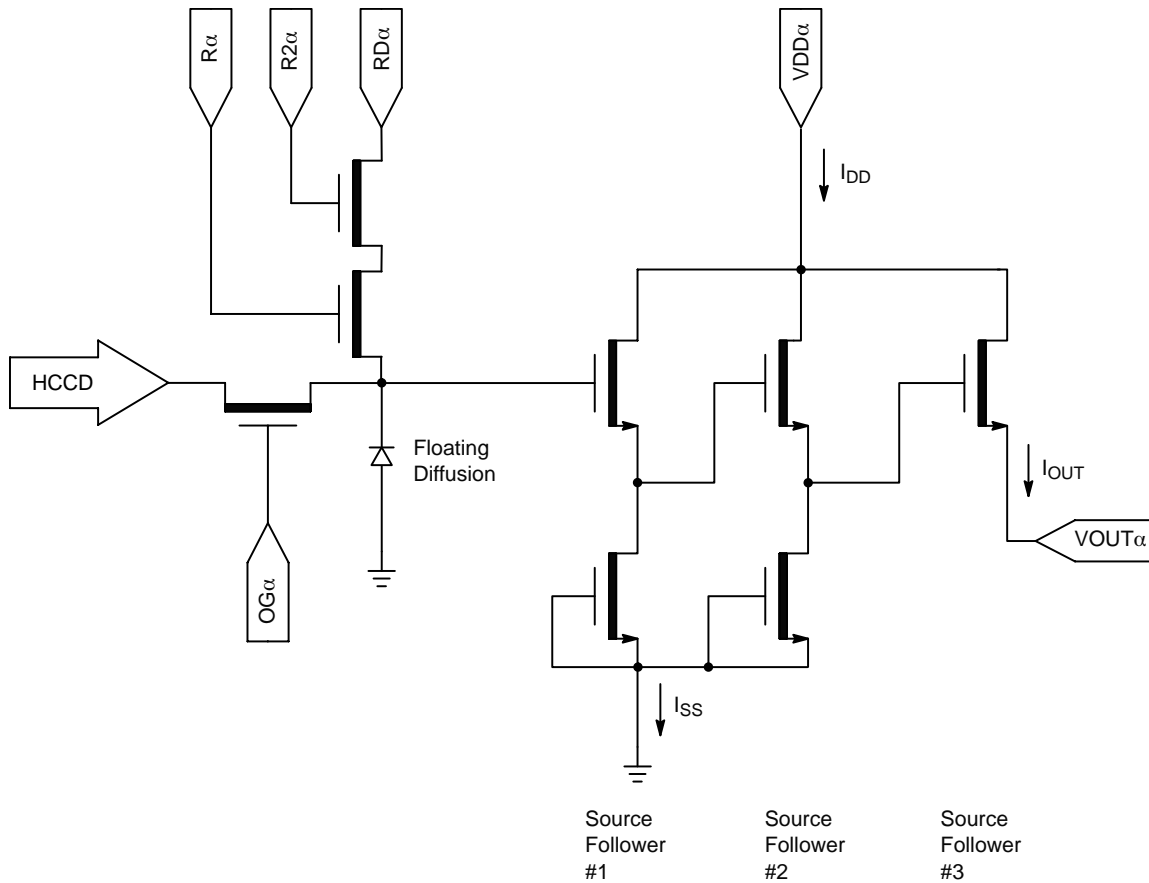

Figure 27. Output Amplifier
- The maximum DC current is for one output. $I_{DD} = I_{OUT} + I_{SS}$. See Figure 27.